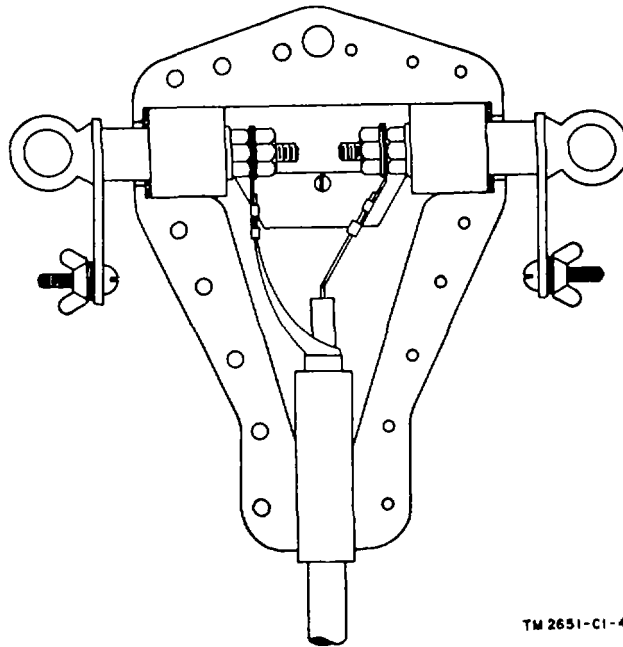

Figure 30. Cross section of antenna connector used in Antenna Group AN/GRA-12.
- (1) There are no readily replaceable parts of the accessory kit.
- (2) The only item of the accessory kit that can readily be repaired is the RF cable assembly.
- (3) Radio Frequency Cable RG-8A/U and Radio Frequency Cable RG-59/U are similarly constructed and a connector can be replaced as outlined in *b(3)* above.
- (4) The antenna connector is a sealed weatherproof unit and should not be taken apart unless absolutely necessary. To open the unit, the old sealing compound should be removed completely and a suitable sealing compound should be used when reassembling the unit. A cross-sectional drawing of the unit is shown in figure 30.